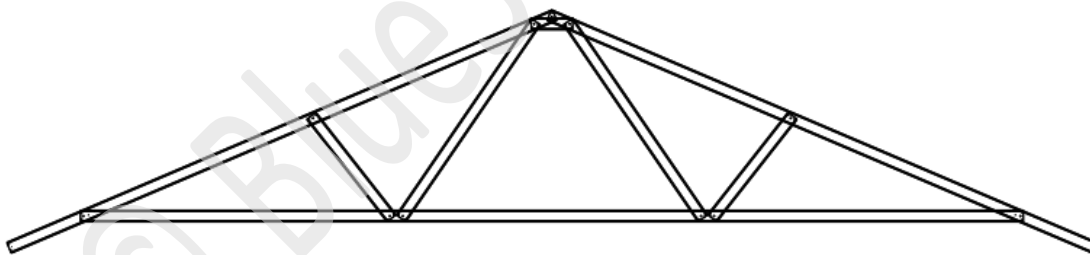

Figure 5.3 Standard 'A' Truss/ Dutch Gable Truss
5.1) **Standard A-Truss:** An A-framed truss supported at both ends by load bearing walls. It forms the main gable roof block. (Refer Fig. 5.3)